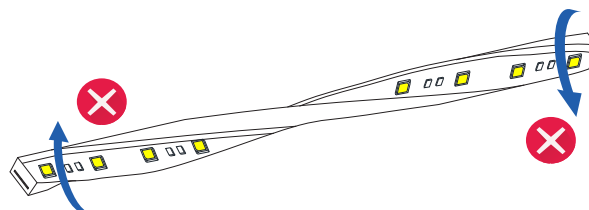

Fig. 2.3
- Do not twist past the minimum 30° angle (Fig. 2.3) Doing so will result in damaging the internal circuit board.